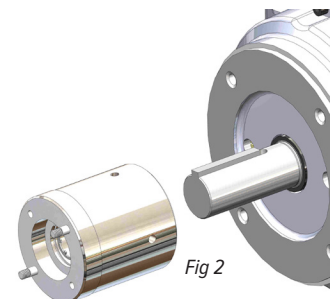

Fig 2
- Coat the motor shaft with anti-seize paste. Slide the drive shaft adapter (item 8B) onto the motor shaft with the key in the keyway. Slide the adapter until the retaining ring touches the end of the motor shaft. See figure 2.
- i. Install flat washer, lock washer, and bolt (items 18, 19 & 20) into the end of the motor shaft and then tighten to the following torque settings: